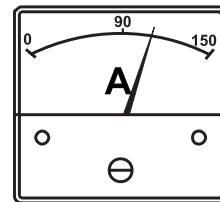

Figure 40. Ammeter (Load)
15. Observe the **AC ammeter** (Figure 40) and verify it displays the anticipated amount of current with respect to the load. The ammeter will only display a current reading if a load is in use.